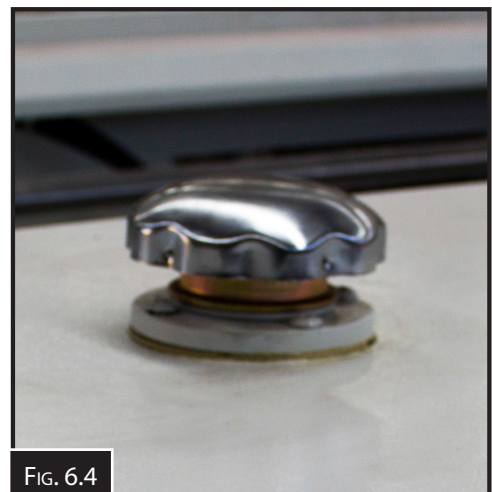

FIG. 6.4
- Replace the cover, remove the filler cap (Fig. 6.4) and using a pump, add the new oil into the tank.